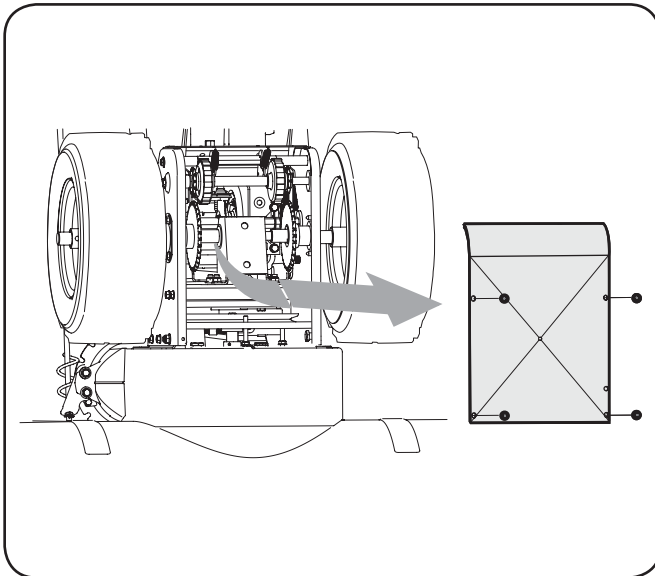

Figure 6-6
1. With the snow thrower tipped forward (be certain to run the fuel tank dry before tipping the unit forward), remove the frame cover underneath the snow thrower by removing the self-tapping screws. See Fig. 6-6.